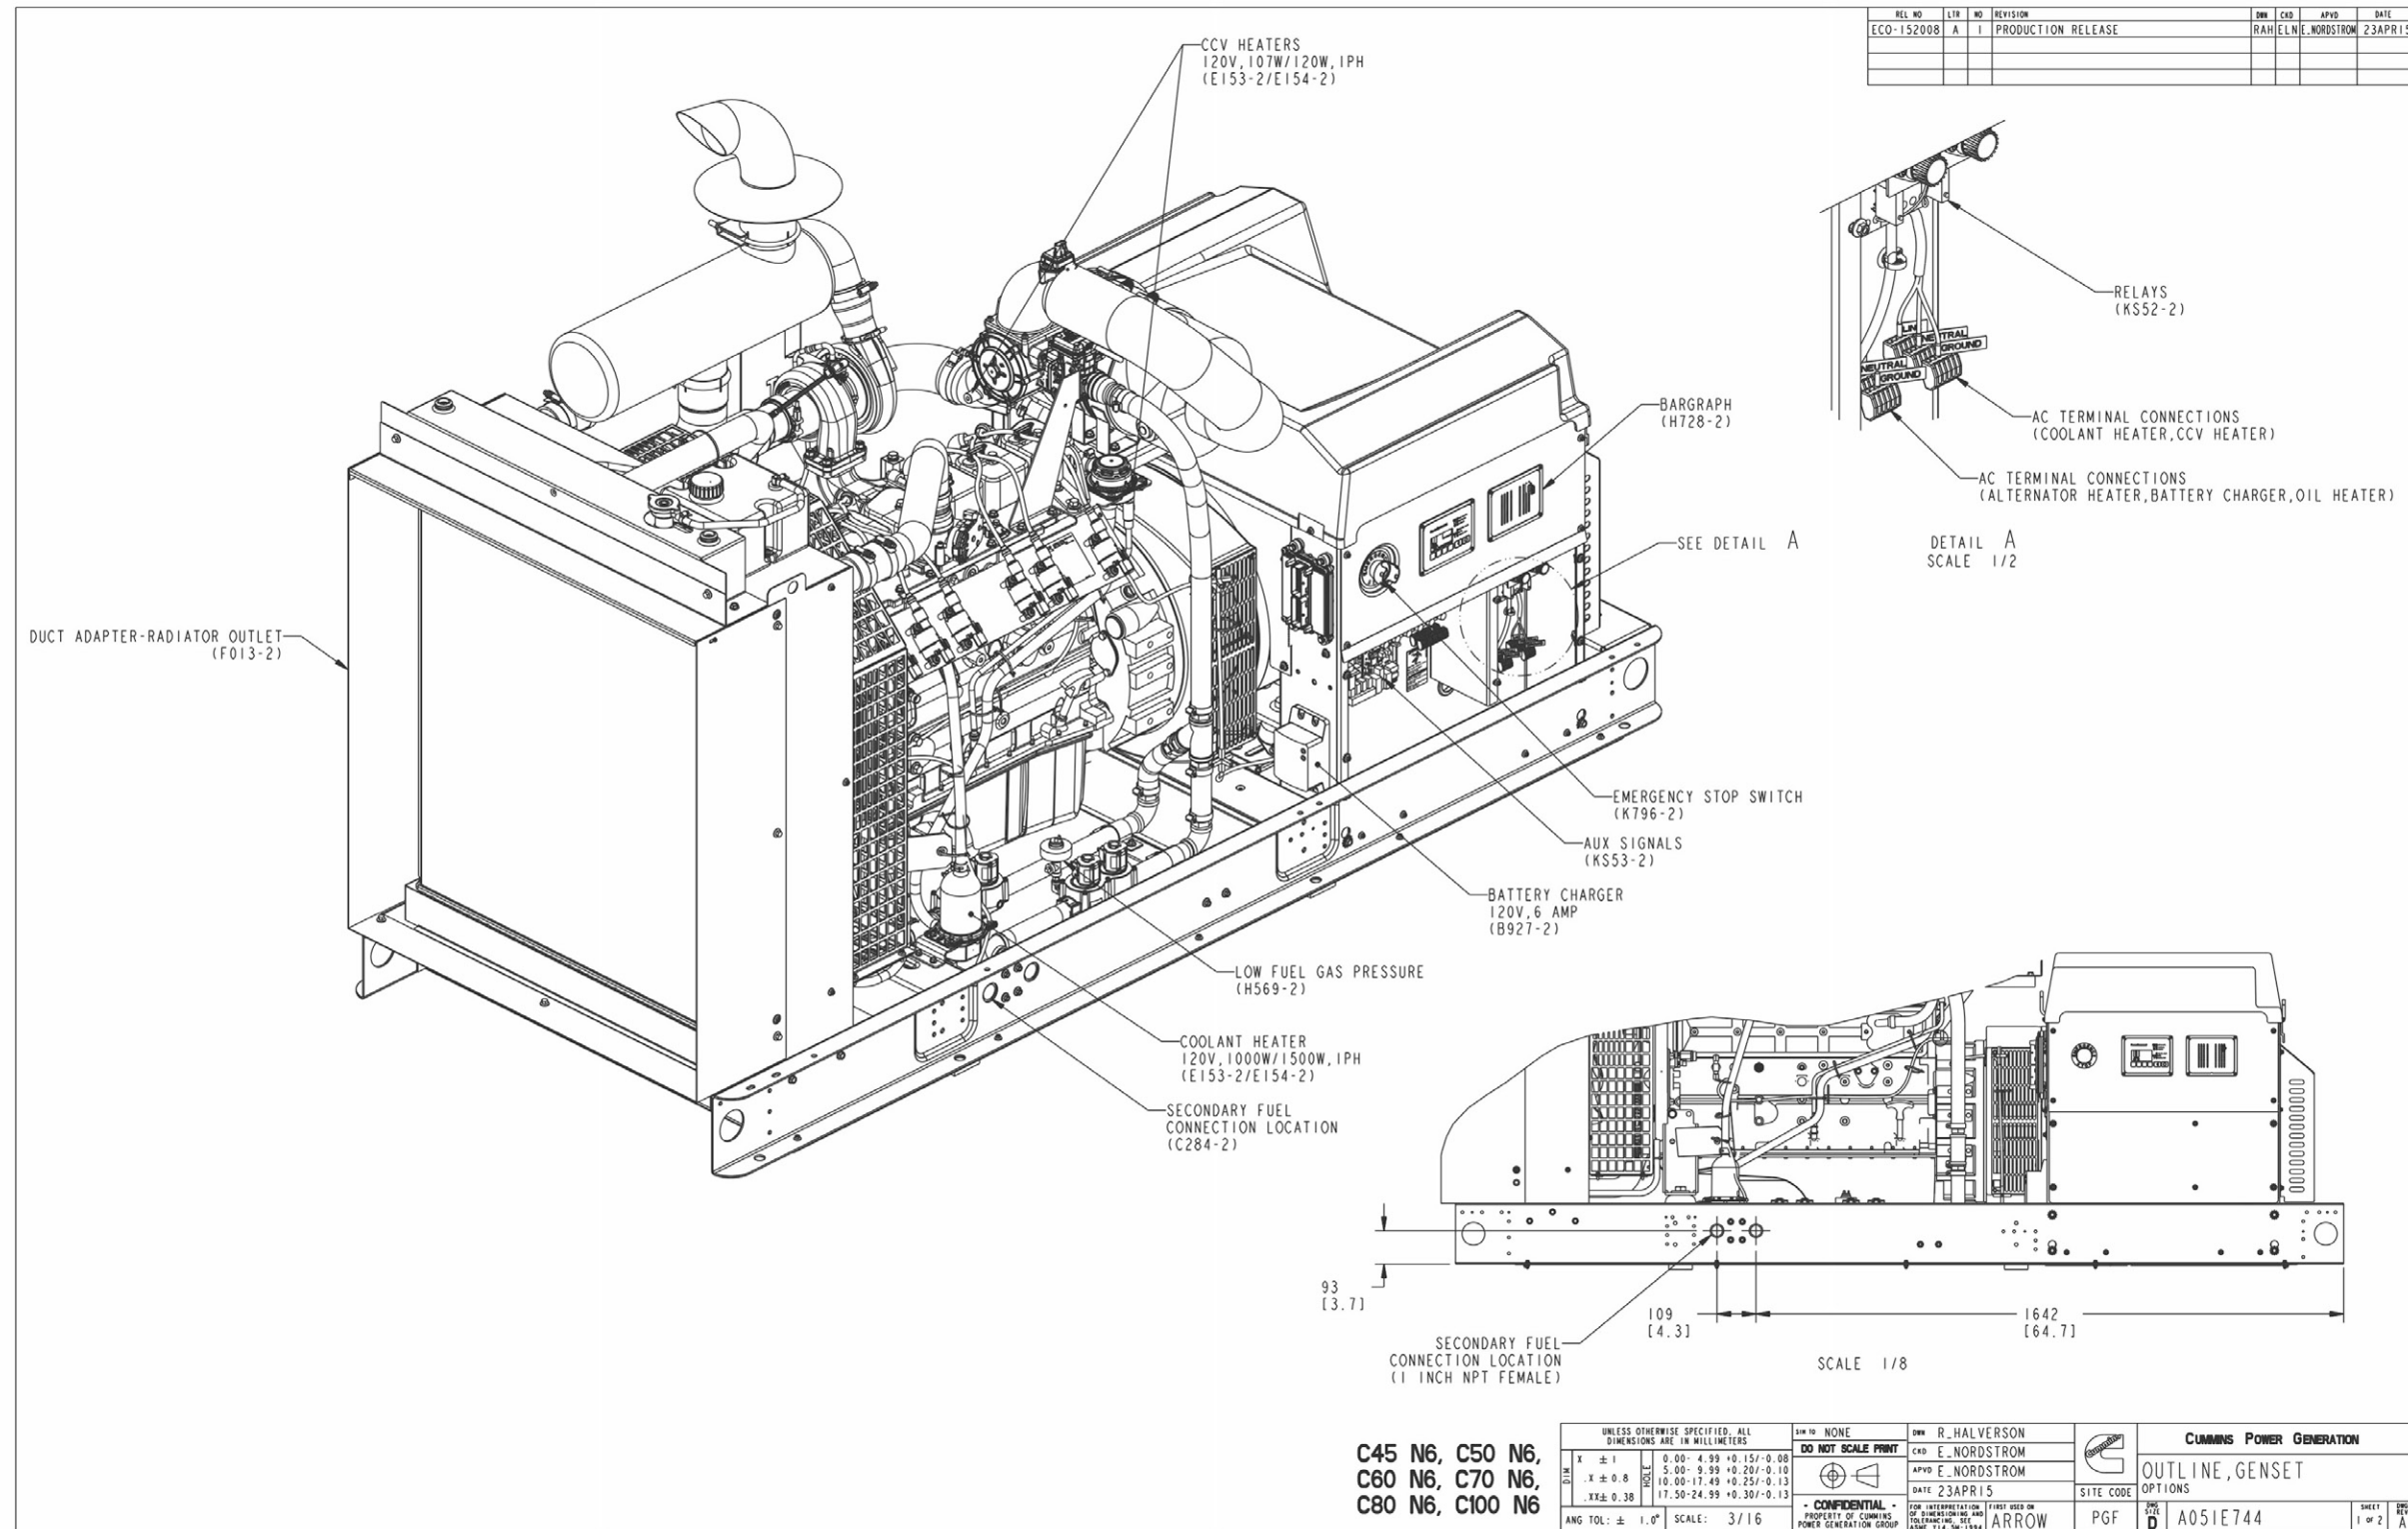

FIGURE 39. GENERATOR SET OUTLINE, ACCESSORIES (SHEET 1 OF 2)
- Figure 39. Generator Set Outline, Accessories (Sheet 1 of 2) 111